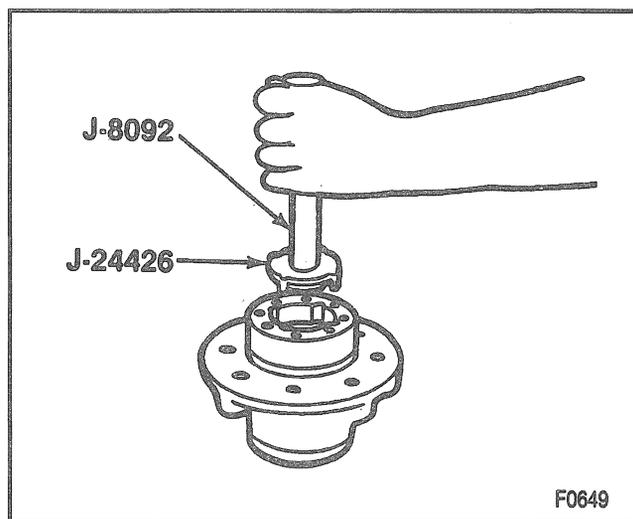

Figure 23—Removing or Installing the Outer Bearing Cup
6. Outer bearing using J 8092 with J 24426 (Figure 23).
Install or Connect (Figure 23)
**Install or Connect (Figure 23)**